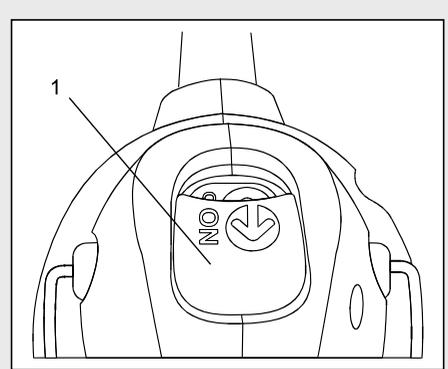

Fig. 5
This spin saw is equipped with a convenient ON/OFF switch (1) located on the top of the tool handle (Fig. 5). To turn the switch ON, slide the switch outward. To turn the switch OFF, slide the switch inward.